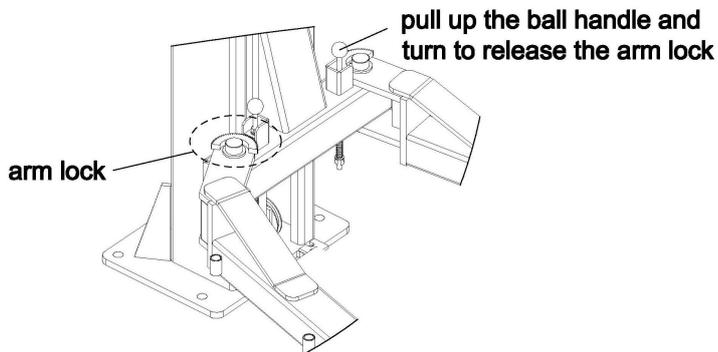

Fig 11
**Step10: Install lifting arms. (Fig 11)**